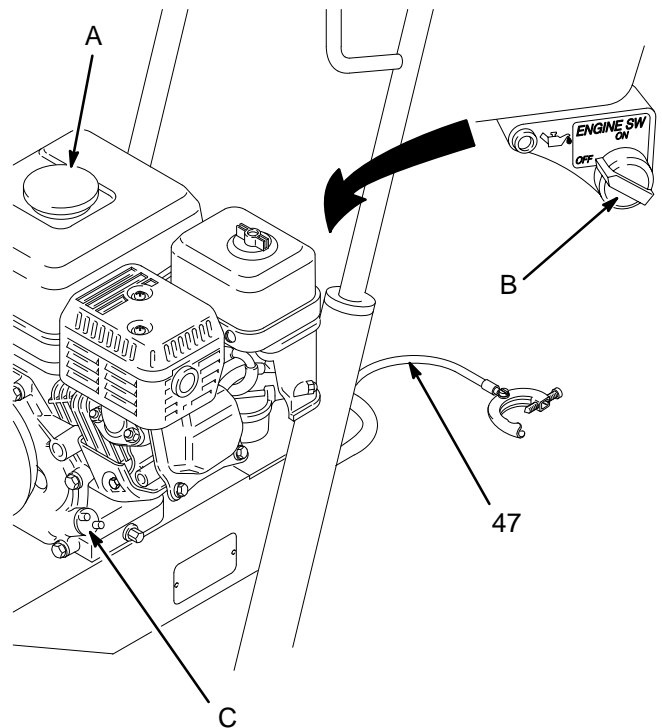

Fig. 2
5. **Check the engine oil level.** Refer to the Honda engine manual, supplied. This is a summary of the information: Remove one of the oil fill plugs; (C) the oil should be almost overflowing. See Fig. 2. Add oil as necessary.